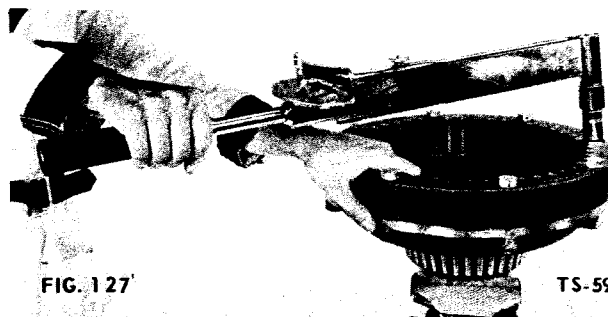

FIG. 127
2. Position internal gear on hub. Secure with bolts (Fig. 127). Tighten per torque specifications.